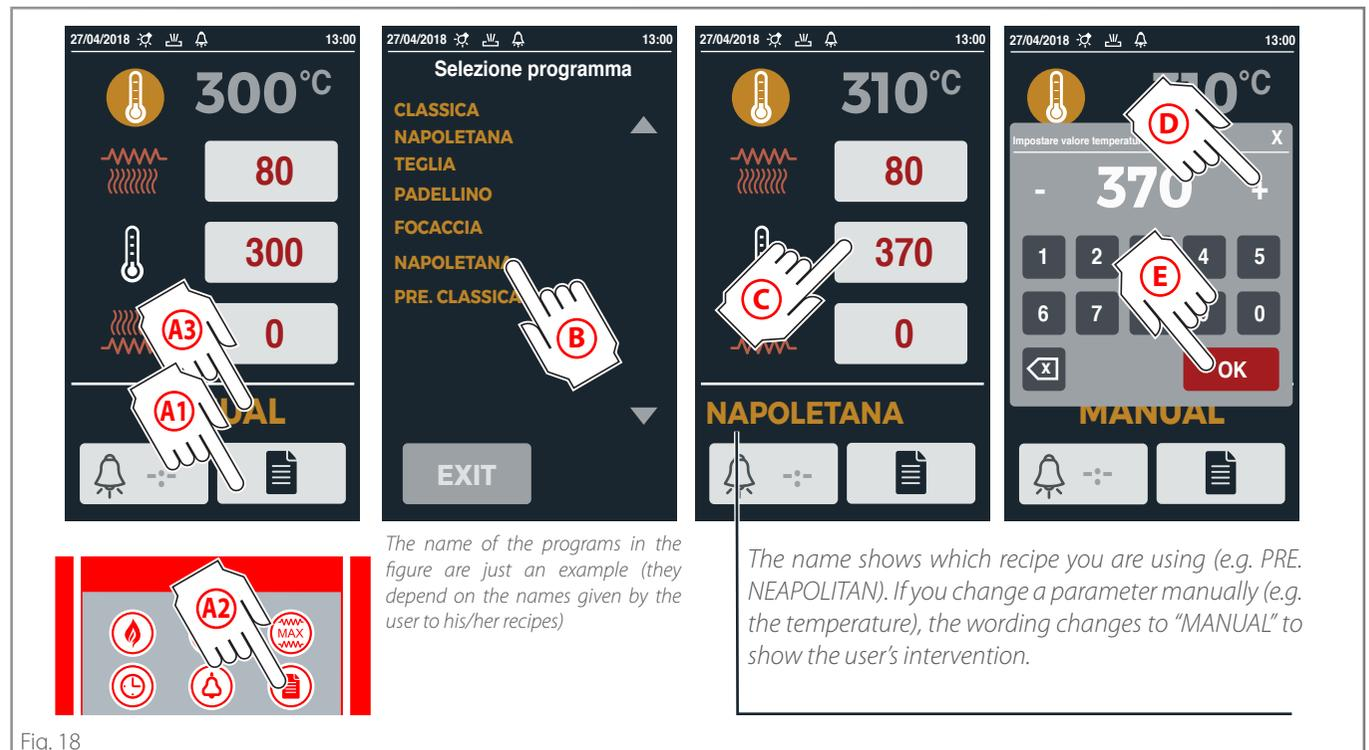

Fig. 18
- ▶ **Fig. 18** starting a **recipe (program)** already stored, previously saved by the user.
Using an already stored recipe ▶ Fig. 18